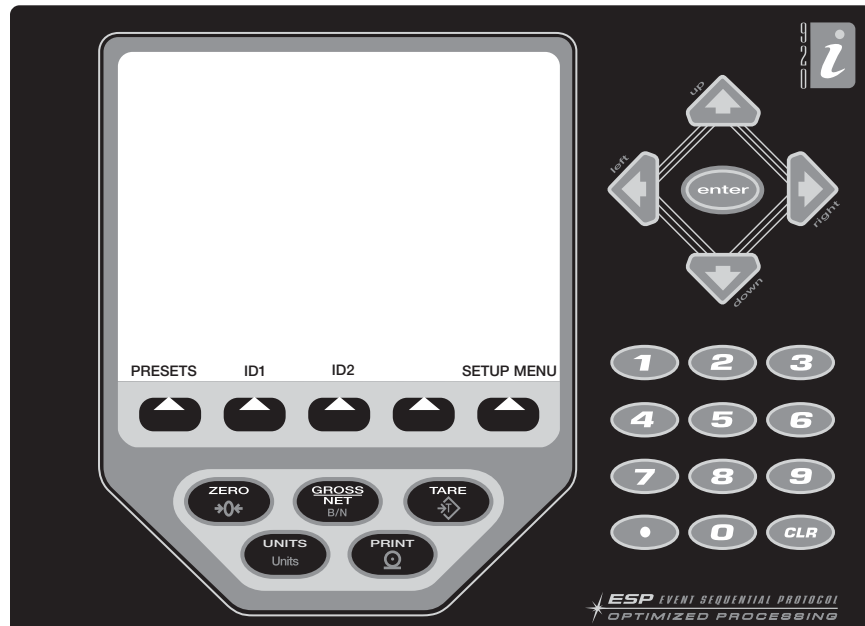

Figure 1-1. 920i Front Panel
2. Use the arrow keys on the *920i* and the numeric keypad (see Figure 1-1) to modify the time and or date.